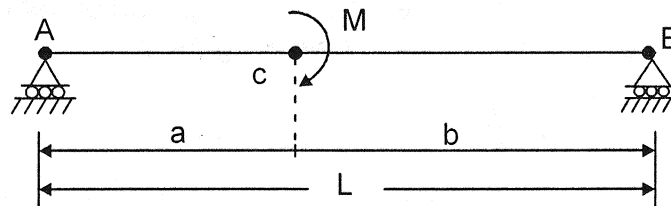

Figure 2
- ii) Draw SFD and BMD for the following beam loaded as shown in figure 2 below. 4